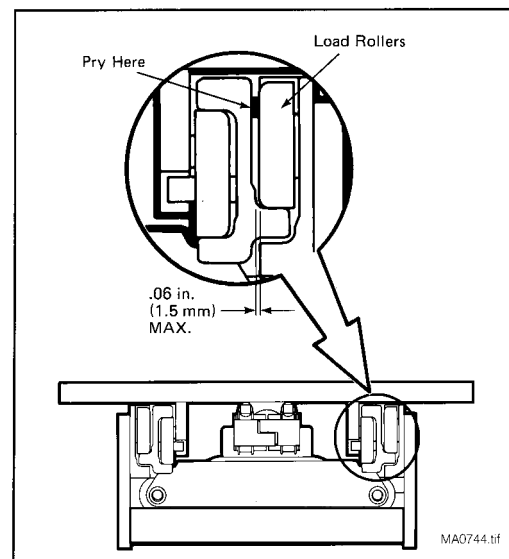

Figure 13. Load Roller Clearances.
1. Each pair of load rollers on the uprights and carriage should be shimmed so that a total side to side clearance no greater than 1/16 in. (1.5 mm) occurs at the tightest point throughout the travel of the member. Pry between the upright and load roller so that the opposite load roller is tight against the upright. Measure the clearance for the pair of rollers at XXX shown. See Figure 13.